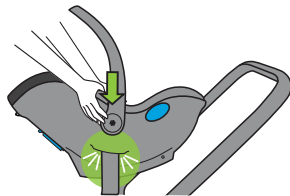

Figure 85
- Push down on each side of the Carrier to lock onto each adapter, as shown in **Figure 85**.